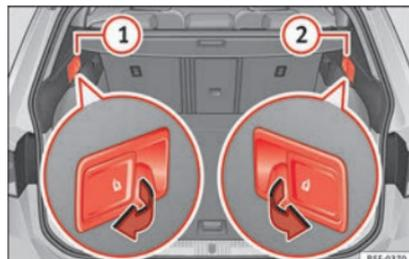

Fig. 153 In the luggage compartment: levers for remote release of the left part ① and right part ② of the rear seat backrest.
- Pull the remote release lever of the left part » Fig. 153 ① or right part ② of the backrest in the direction of the arrow. The released part of the rear seat backrest is folded automatically down and forwards.